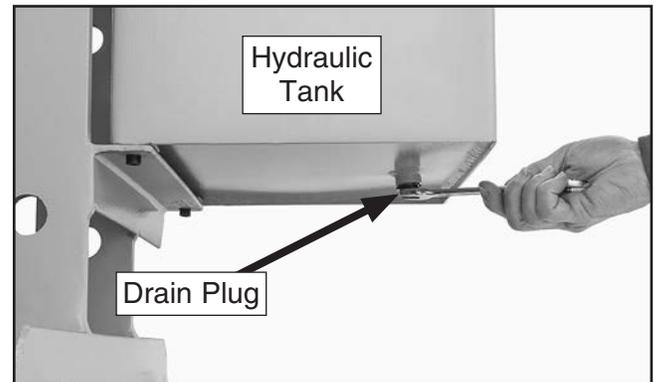

Figure 25. Removing drain plug from bottom of hydraulic tank.
2. Remove drain plug from bottom of tank (see **Figure 25**). Drain all fluid from hydraulic tank.